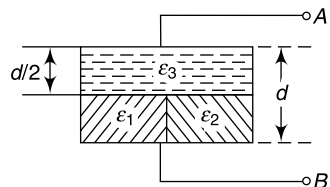

Fig. 2.73
41. A parallel plate capacitor is formed using three dielectric substances having permittivities ϵ_1 , ϵ_2 and ϵ_3 (Fig. 2.73). If the plate area is 'a', find the equivalent capacitance between A and B.
[Hint: Ref. equivalent circuit Fig. 2.73.